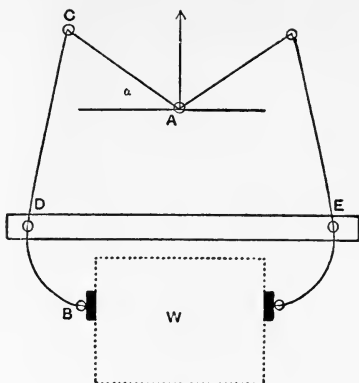

Fig. 1.
1. Fig. 1 shews the outline of a grip for lifting blocks of stone. The bent link *BDC* is pivoted at *D* to the distance piece *DE* and there are pin joints at *A*, *C*, and *B*. Shew that the horizontal gripping forces are